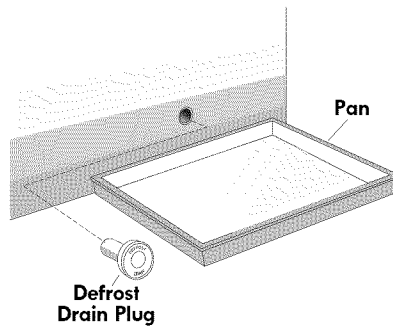
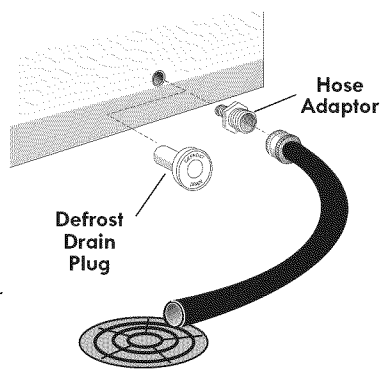

Figure 2
Figure 3
- Place a shallow pan or the Divider/Drain Pan (if equipped) beneath the drain outlet. Pull out the outside drain plug (see figure 2). A ½ inch garden hose adaptor can be used to drain the freezer directly into a floor drain (see figure 3). If your model is not equipped with an adaptor, one can be purchased at most hardware stores.